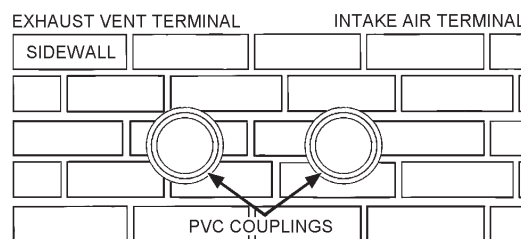

Figure 19. Installing Air Intake Pipe and Coupling
Instructions on proper installation through a sidewall are provided in **Figure 19** (page 27) and **Figure 20** (page 27). Plan the vent system layout so that proper clearances are maintained from plumbing and wiring.
- If the air intake pipe is installed up to the wall, with a coupling on the end against the wall opening, the pipe with the air intake terminal can be prepared for gluing before inserting through the wall. Slide the pipe through the wall and insert into coupling on the other side of the wall. See *Figure 19* and *Figure 20*.